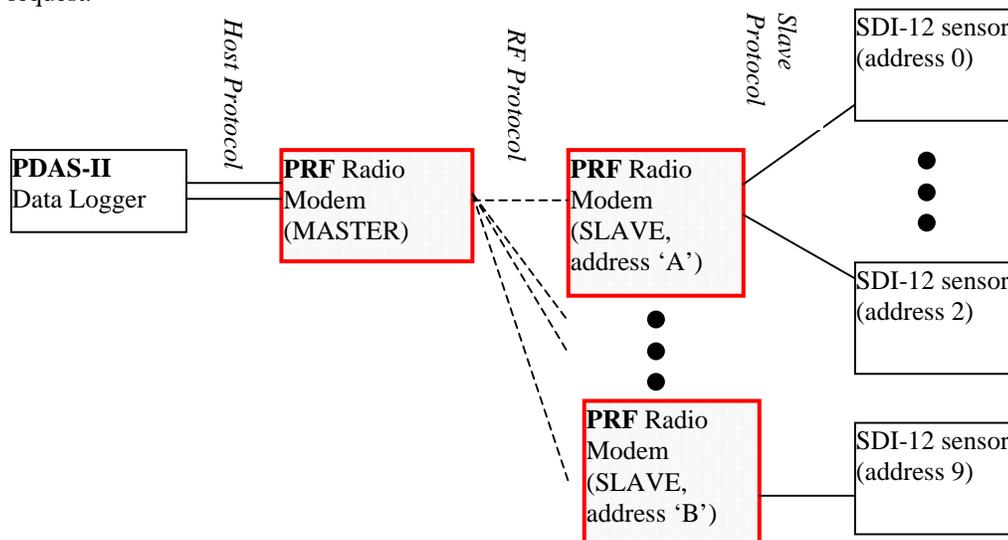
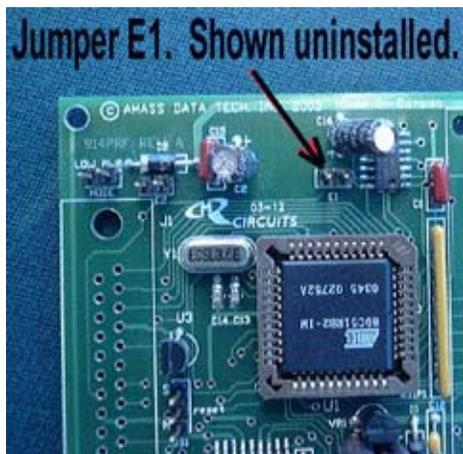
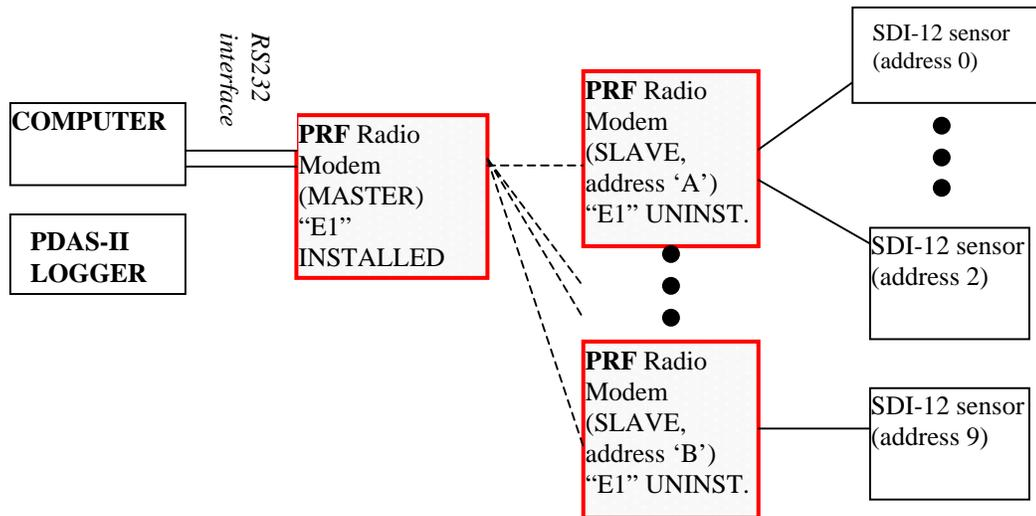

Figure 1. Wireless network solution using PRF radio modems.
Figure 2. Location of Jumper "E1".
Figure 3. A computer connected to the MASTER PRF with "E1" installed.
The PRF also provides wireless communication between a computer (with a serial port) and standard SDI-12 sensors via the RS232 port of the MASTER PRF. This configuration is depicted in Figure 3.
The standard PRF supports standard SDI-12 sensors on the SLAVE(S) PRF units. Note that the SDI-12 protocol allows for a total of ten addressable sensors on a given network. Until further notice, the SDI-12 addresses of the sensors must be unique on the entire network depicted in Figure 1. Therefore, you CANNOT duplicate an SDI-12 address even though it is connected to another SLAVE PRF on the network. Therefore, you cannot have two SDI-12 sensors at address 0, for example, even though these two sensors are connected to separate SLAVE PRF units.
For instance, under normal operation with the standard PRF (“E1” uninstalled), the host is usually connected to the SDI/RS485 port of the MASTER radio (Figure 1) and sends commands to that port. Alternatively, a computer may issue commands to the MASTER for the purpose of configuring it as well as communicating with the remote PRF, or even the SDI-12 sensors as depicted in Figure 3. However, accessing the MASTER PRF via a computer requires connection to its RS232 port. Jumper “E1” allows for this port selection. Refer to Figure 2 to locate jumper “E1”. The effect of Jumper “E1” depends on whether the PRF is configured as a MASTER or a SLAVE as per Table 1. Note that the same command set is available regardless of the host port in use.
RS232 EXAMPLES: 1. To obtain the identification of the MASTER PRF (depicted in Figure 3) :
A network of standard PRF radio modems, as depicted in Figure 1, allows wireless communication between the host device and the remote SDI-12 sensors connected to the SLAVE(S) PRF. This is accomplished with the PRF units operating transparently. Therefore, to communicate with the SDI-12 sensors the host must simply transmit messages that are part of the sensors’ command set.
RS232 HOST EXAMPLE : See Figure 3. To obtain the identification of the SDI-12 sensor at address 0:
PDAS-II HOST EXAMPLE (SDI-12/RS485): See Figure 1. An AMASS DATA PSE-SDI shaft encoder is at address 0. Obtain a reading of the water level: